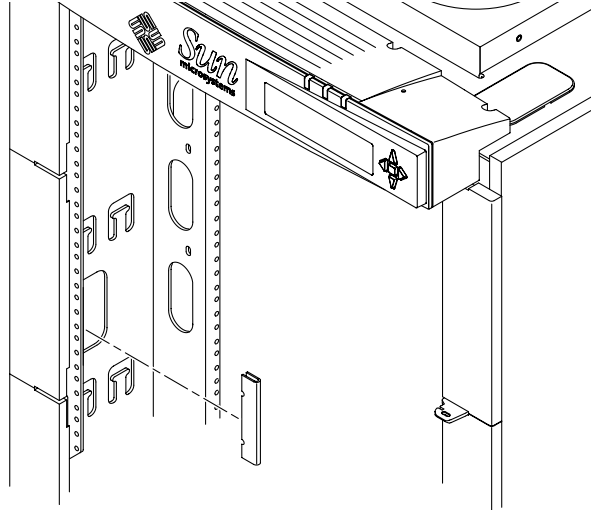

FIGURE 3-5 Cabinet Guard Installation
2. Align the upper “v” notch on the cabinet guard with the appropriate numbered hole, and press firmly in the middle of the guard until it stops against the edge of the cabinet (FIGURE 3-5).